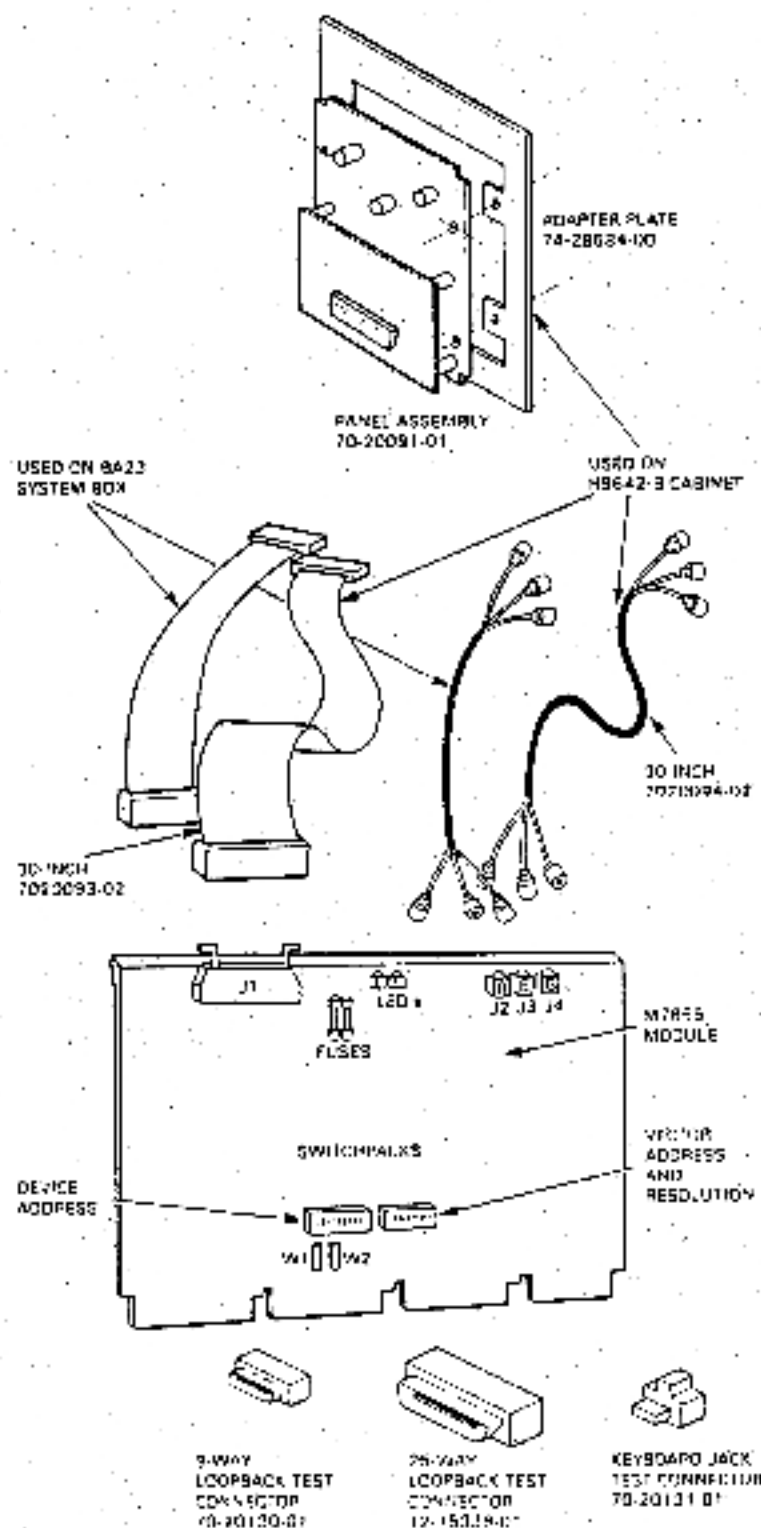

Figure 1-1 Standard VSV2L Option Kit Components
Figure 1-1 shows the components that make up a typical standard VSV21 option kit.
- The bulkhead panel 70-24336-01 replaces the panel assembly 70-20091-01 supplied with the standard VSV21 option kit (see figure 1-1)